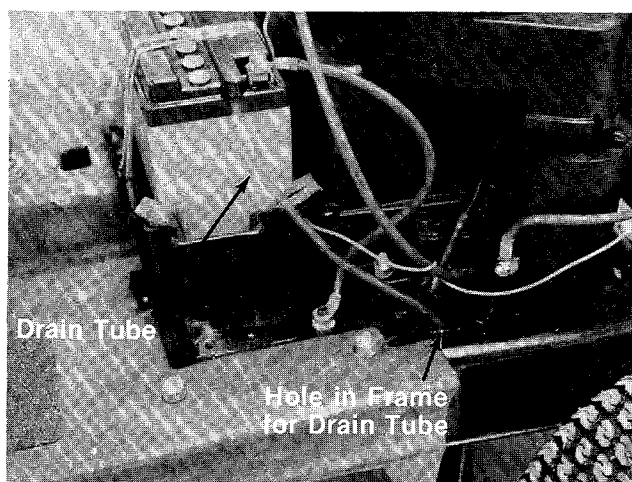

FIGURE 16.
13. Feed the end of the battery drain tube into the hole provided in the frame, located in front of the starter on the engine. See figure 16.